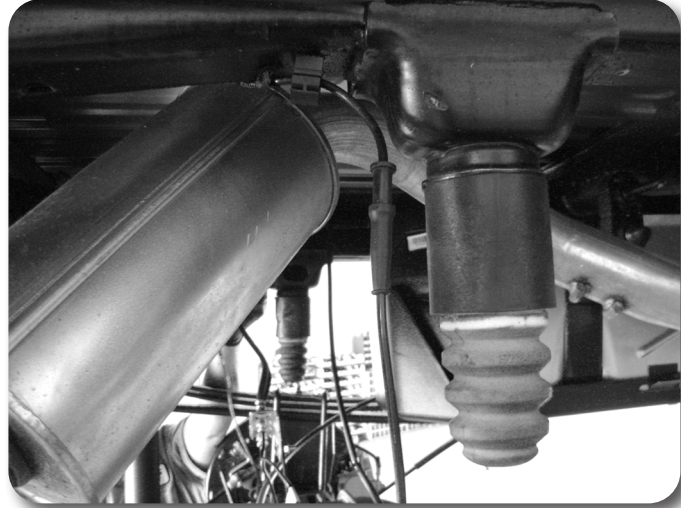

Figure 45
12. Remove the rear rubber bump stops from the frame. Access the bolt head up through the center of bump stop using a 10mm socket. Remove the bump stop and install the provided 3" diameter x 3" tall spacer between the bump stop and the frame mount with a 10mm x 110mm Allen head bolt (Loctite threads). Center the spacer on the lip of the factory bump stop cup and torque bolt to 35 ft-lbs Figure 45.